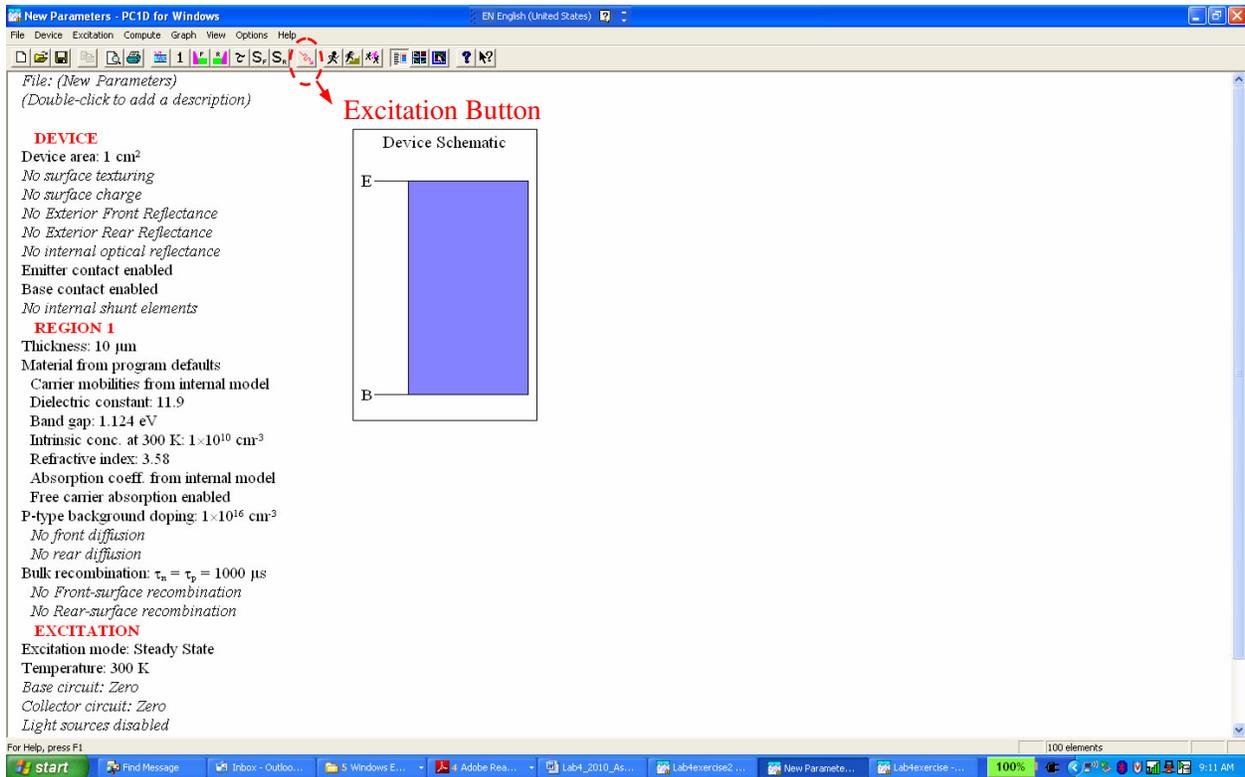

Fig. 1 Simulation software interface
3. You should be able to see the interface of the simulation program as shown in Fig. 1. Now you are in the "parameter" view. In this window, you can double click on any line and a window will pop out for you to modify the parameters
- (c) **Excitation**: Let us launch optical excitation, or solar illumination. Click on the Excitation button shown in Fig. 1 (next to “SR”) and choose “one-sun” from the file. This way we are launching a standard AM1.5 solar radiation. Click on “Excitation mode” and change the number of time steps to 100. Click on “Base Circuit” and set the all resistances to 0; put voltage to -0.2V under transient, and initial voltage to -0.7 V and final voltage to 0.7 V under “transient”. This will enable us to see the I-V curve under illumination.